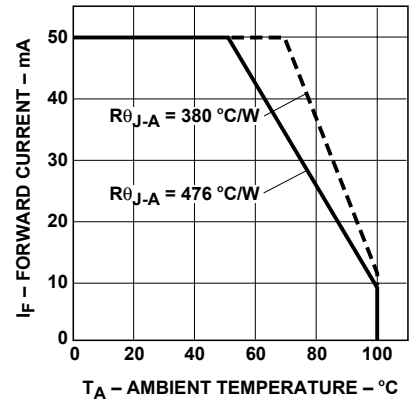

Figure 4. Maximum forward current vs. ambient
3. Derate linearly as shown in Figure 4.